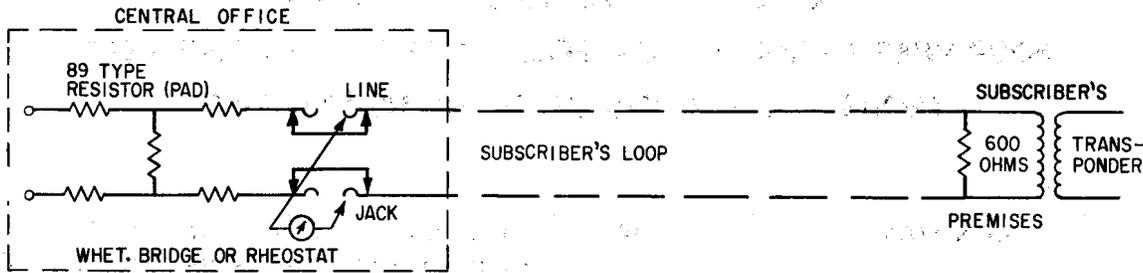

Fig. 1 — Measurement of Loop DC Resistance
**3.01** The resistance of each loop should be measured from its LINE jack at the central office with a Wheatstone Bridge or rheostat on the local test desk as shown in Fig. 1. The resistance should include the 600-ohm termination placed by the Telephone Company and located at the subscriber's premises. **IF** the transponder is installed by ARB, its resistance of about 540 ohms will be in parallel with the Telephone Company termination and this should not be overlooked. The resulting resistance of each loop measured on the circuit order test should be filed with the circuit order card or sketch for future reference.
- (6) If possible, isolate the trouble to a specific office.
- (7) Monitor the loops at the LINE jacks for excessive noise. If a 2B Set is available, measure the noise at the same jack. The noise should not exceed 35 dba.
- (8) Check the subscriber loop for a ground.
- (9) If all loops are noisy, check central office for recent rearrangements in central office power plant.
- (10) Measure loop resistance as shown in Fig. 1.
- (11) Remove connections to transponder on 11C connector at customer's premises.